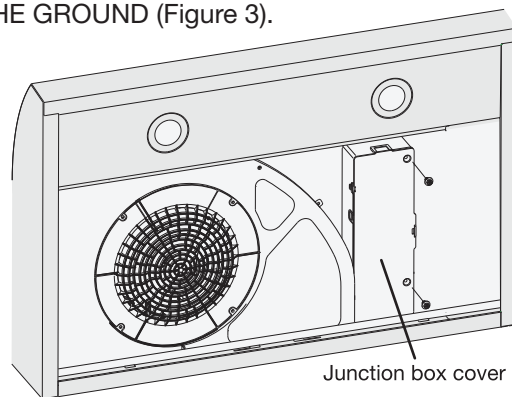
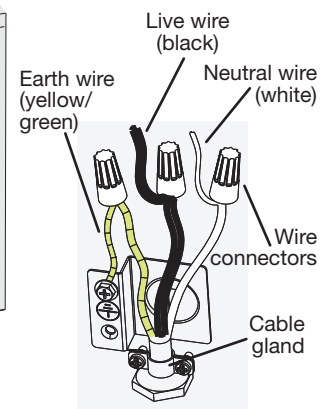

Figure 2
Figure 3
- Loosen two screws of junction box, and remove the junction box cover (Figure 2). Connect cable to range hood wiring using included wire connectors. Connect BLACK to BLACK, WHITE to WHITE and GREEN or BARE WIRE to GREEN ground screw. **DO NOT FORGET TO CONNECT THE GROUND (Figure 3).**